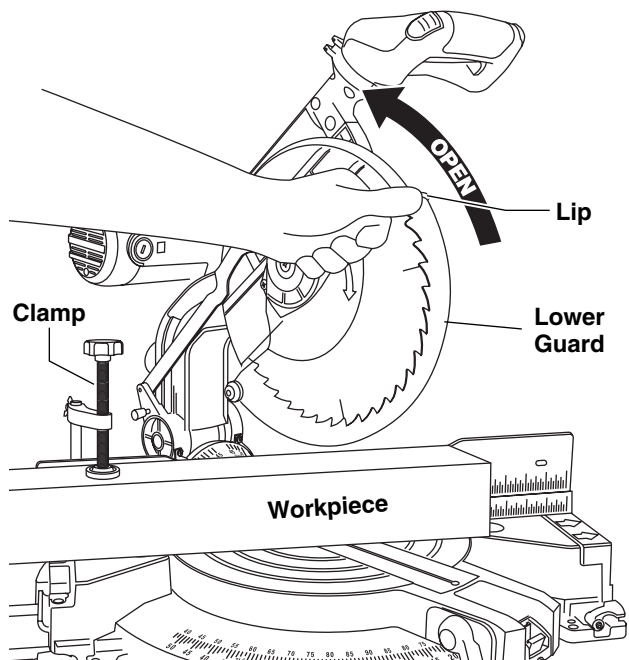

Figure 2. Raising Lower Guard
- Workpiece must be securely clamped. This frees a hand to raise the guard by the lip just enough to clear the workpiece (Figure 2).